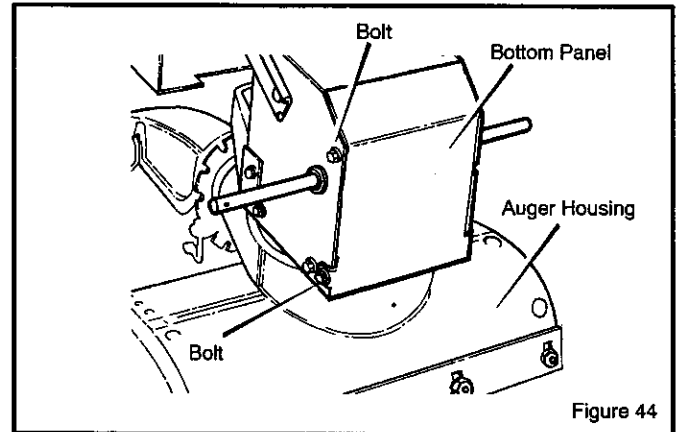

Figure 44
1. Remove the gas from the gas tank. Stand the snow thrower up on the front end of the **auger housing** (see Figure 44).
3. Loosen the **bolts** on each side of the **bottom panel** (see Figure 44).
6. Install the **bottom panel** (see Figure 44).
1. Remove the gas from the gas tank. Stand the snow thrower up on the front end of the **auger housing (4)**. (see Figure 44).